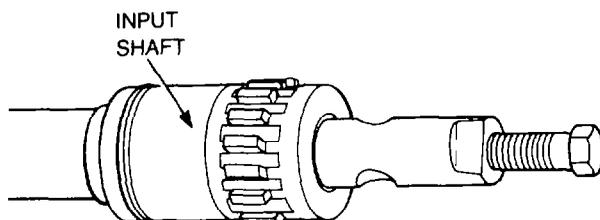

Figure 167 — Pilot (Pocket) Bearing Removal
- v. Remove the input shaft bearing cap and bearing. Remove the input shaft, then using a suitable bearing puller remove the pilot (pocket) bearing from the input shaft (see Fig. 167).